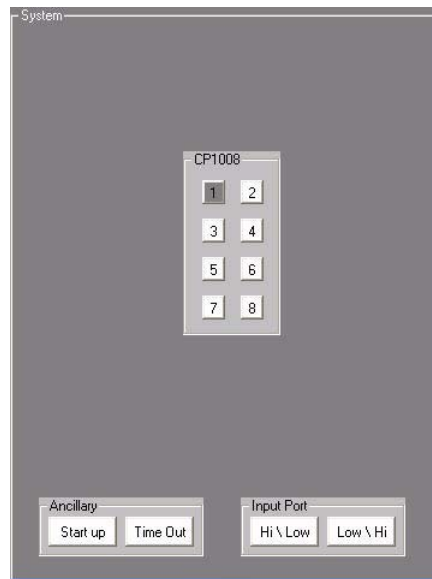

FIG. 46 System window - Button 1 selected
1. Select a button to configure from the *System* window (FIG. 46).
- Select Button 1 in the *System* window (see FIG. 46 on page 36).